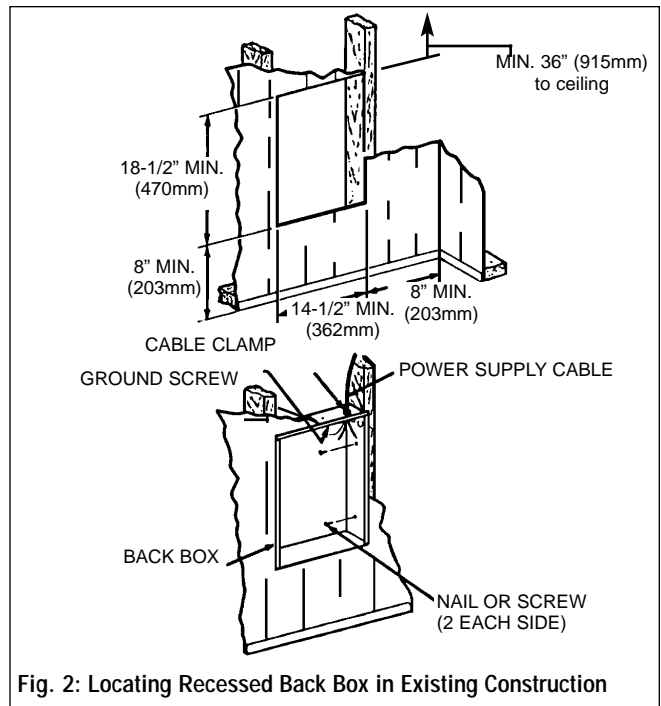

Fig. 2: Locating Recessed Back Box in Existing Construction
1. Provide a wall opening 14-1/2" (362mm) wide x 18-1/2" (470mm) high at the desired mounting height, but no closer than 8" (203mm) to any adjacent wall or 36" (915mm) to ceiling. (See Figure 2.)